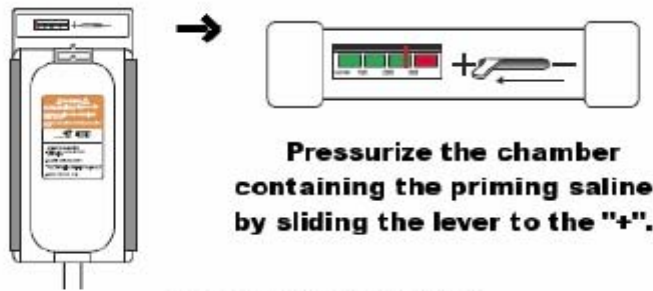

Figure 3: Pressurize the chamber.
- 3.0 Power on the Fluid Warmer (disregard the visible and audible alarms while conducting the test). Pressurize the priming saline by sliding the lever on the pressure chamber to the "+" position. See Figure 3. **NOTE:** If using a Model H-1100, use a manual pressure cuff to pressurize the fluid bag.